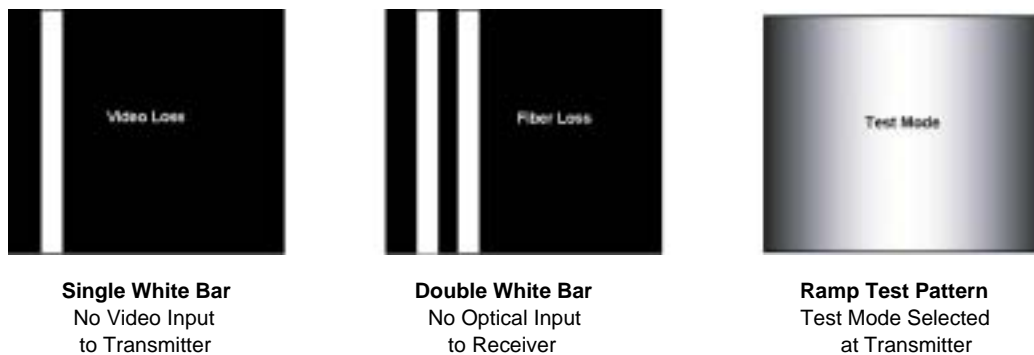

Figure 11. On-Screen Monitor Displays
Follow the procedures described in paragraph 2.5 to enable the test pattern generator. Figure 11 shows the test patterns displayed on the monitor.
- 5) In addition to the LED operation described above, verify the following the monitor displays a ramp test pattern as shown in Figure 11.